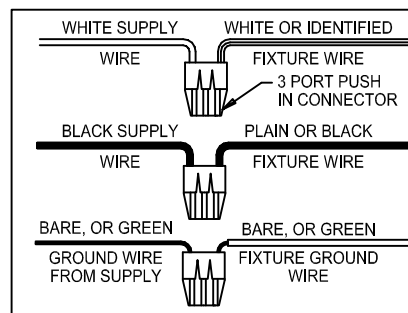

FIG.4
4.- Run Supply Wires through UL Listed Connectors (not supplied) in one of the seven Pryouts (7) on the Junction Box (8) or Type NM cable (ROMEX) through an Opening above the Wire Retaining Plate (9). Connect Wires (10) as shown in Fig 4. Replace Cover.